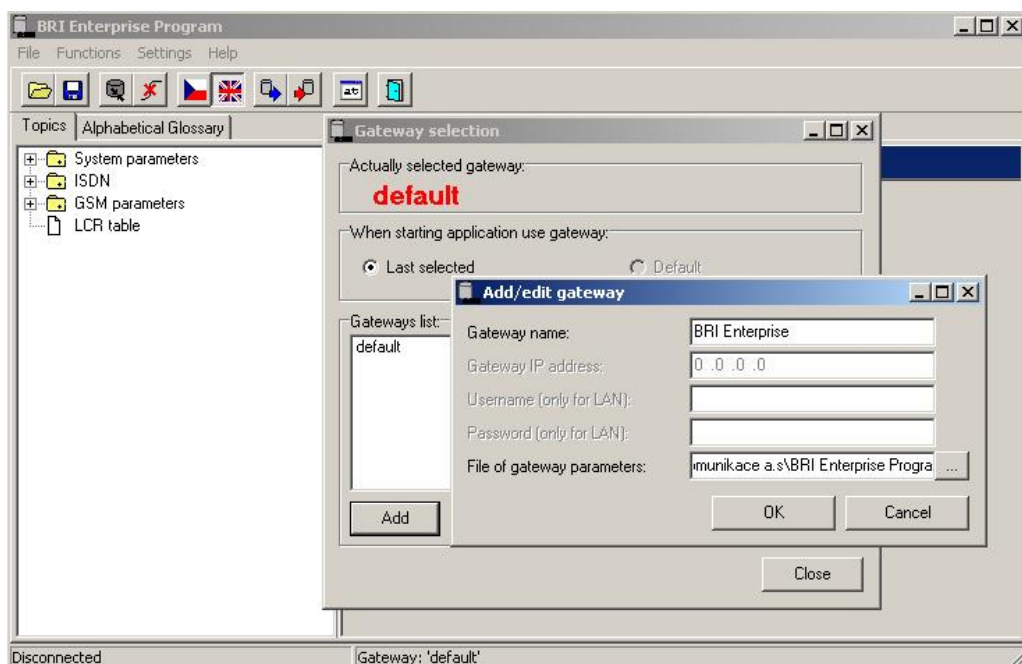

Fig. 38 – Gateway Editing Window
- *Add* - click on *Add* to open a window with some essential data necessary for the gateway identification (see Fig. 38). Enter the gateway name chosen by you into the *Gateway name* item. To control the gateway using the LAN, it is recommended to complete the *Gateway address*, *Username* and *Password*. You need not complete these items if you control the GSM gateway by the USB. Eventually, complete the *File of gateway parameters* including the directory path and filename.